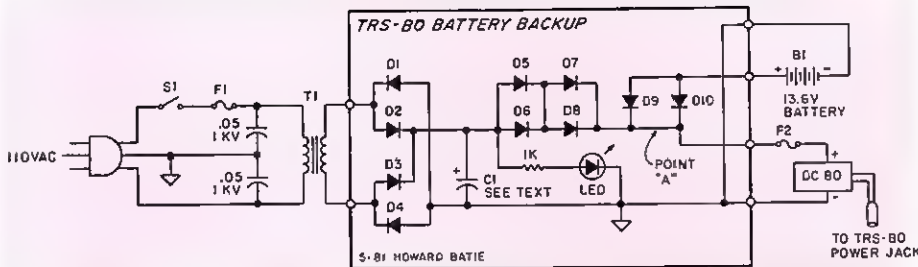

Fig. 1. Schematic Diagram.
in Fig. 1 is built around Digital Innovations' DC-80 power converter designed specifically for the TRS-80. To trace its operation both from the 110 volt line and from the battery, it is easiest to consider each case separately. First, assume that the battery B1 is removed from the circuit. A standard 110 volt to 12.6 volt two-ampere filament transformer is connected to a full wave rectifier bridge formed of D1-D4. The output of this bridge, when filtered by C1, provides approximately 19 volts DC with no load, and about 15 volts with a load current of 1 ampere. D5-D8 provide a 1.4 volt drop which is essentially independent of the current drawn through the diodes ($2 \times 0.7 = 1.4$ volts). Thus, the 13.6 volt potential at point A would provide the input power for the DC-80.
In order to prevent the current from being drawn from the battery while the DC-80/TRS-80 is being powered from the AC supply, the voltage at point A in Fig. 1 must remain above 11.9 volts. This means that the AC supply must furnish at least a voltage of the average DC voltage minus the AC component. With a 2200 microfarad capacitor for C1, no more than three diode pairs should be used with a 13.6 volt battery.
powered from the battery is determined by the battery ampere-hour rating. For instance, if a 100 A-h battery is used, about 100 hours of service is possible if the battery starts out fully charged. The DC-80 can accept input DC voltages down to about 9 volts. Since recharging the battery while it is connected to the DC-80 can damage the DC-80, disconnect the battery from the circuit of Fig. 1 before recharging the battery.
The components shown in Fig. 1 are assembled on a small perfboard which along with the transformer and DC-80 is housed in a single ventilated enclosure. The on/off switch S1 and AC power LED are optional. The 110 volt line is fused by F1, a panel-mounted half-amp fast-acting fuse. F2 is part of the DC-80 as supplied and should be retained. The DC-80 output DIN plug goes directly into the TRS-80 power jack, and the
One final note: one DC-80 will power either a TRS-80 or an Expansion Interface (EI), but not both. If you intend to provide battery backup to both the TRS-80 and an EI, two DC-80's will be required. In addition, heavier components for Fig. 1 will be needed to handle double the current. In this case, I'd recommend that a 6-amp molded full wave bridge rectifier be used instead of diodes D1-D4, a 12.6 volt at 5A transformer for T1, at least three silicon 3A diodes in parallel for each diode pair shown in Fig. 1, and a computer-grade filter capacitor of at least 6000 microfarads rated at 15 volts DC. ■